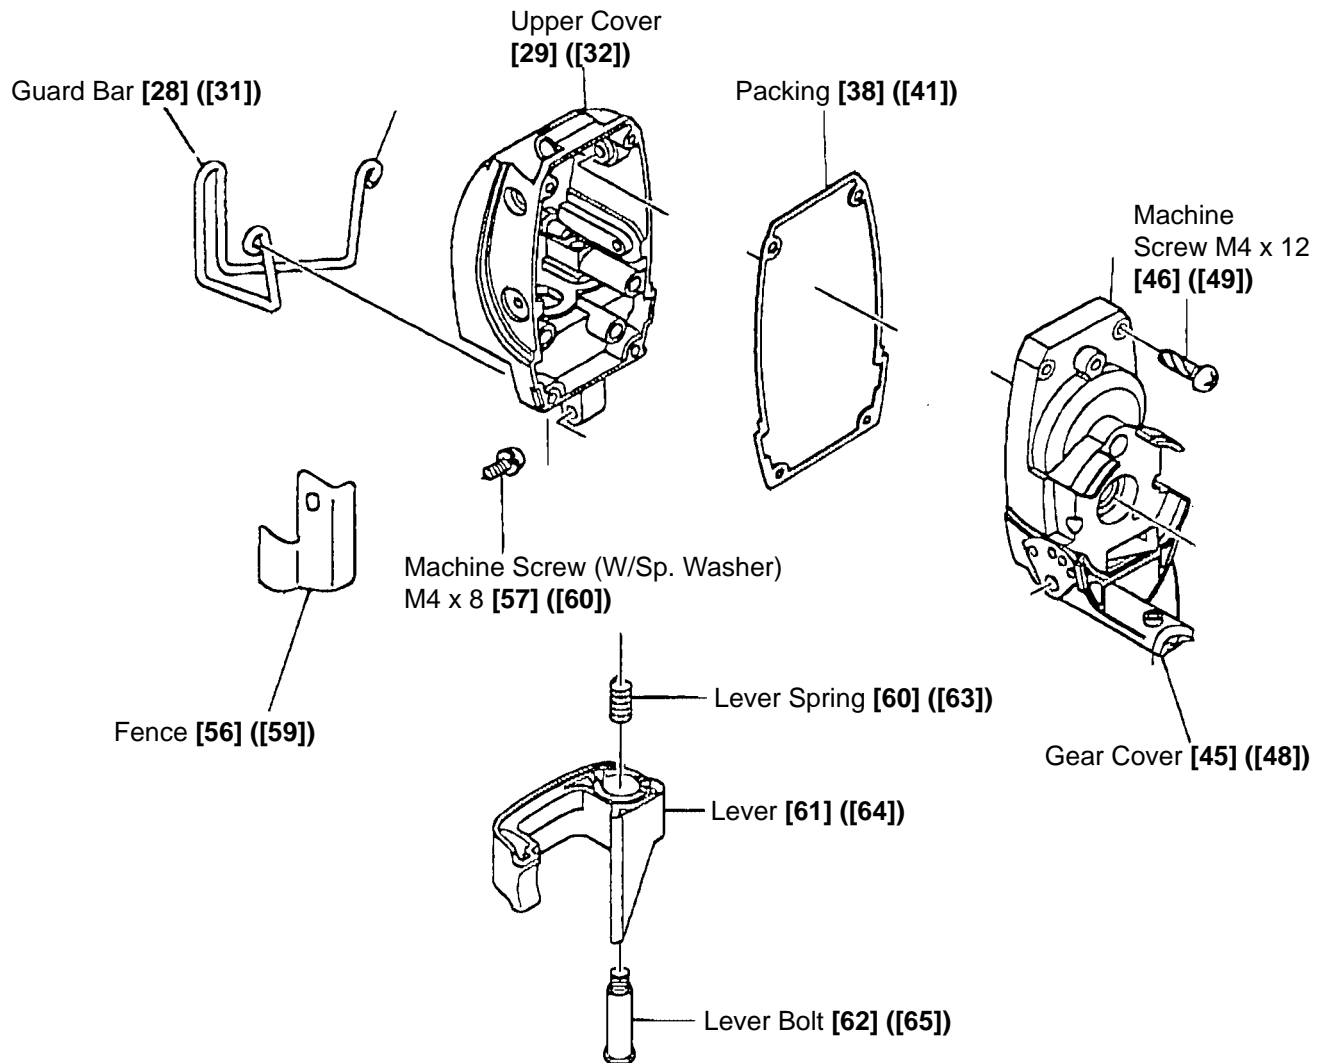

Fig. 8
(4) Disassembly of the Upper Cover [29] ([32]) (Fig. 8)